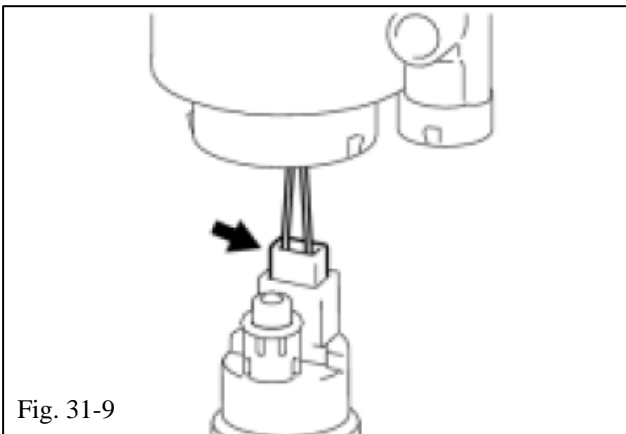

Fig. 31-9
- (i) Disconnect the fuel pump harness from the fuel pump (Fig. 31-9).